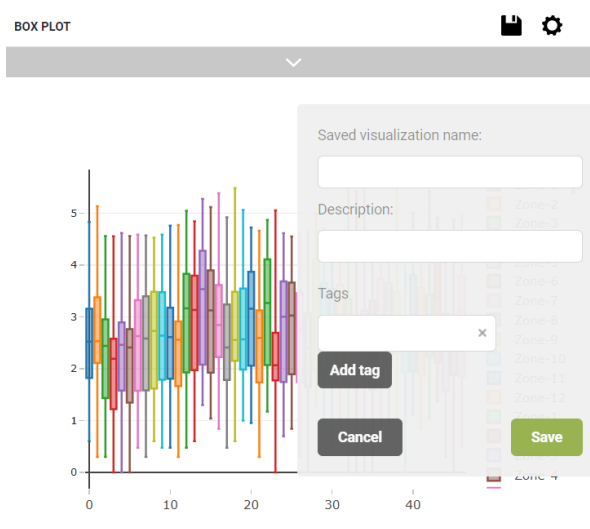

Figure 105: Saving a visualization
2. Give this visualization a name, description, and tags (if desired) (see Figure 105).